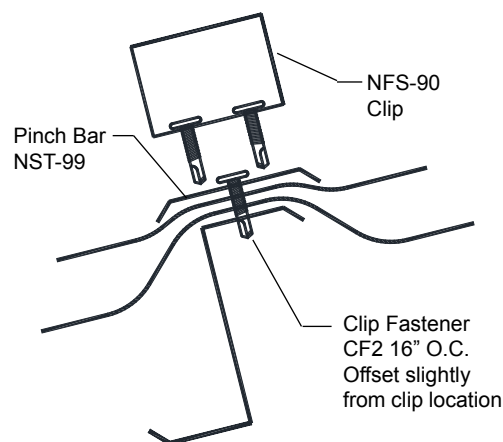

Figure 3
9. Use of NFS-16 Panel with insulation that is sandwiched between the panel and purlin requires the use of a pinch bar prior to panel clip installation. See Figure 3